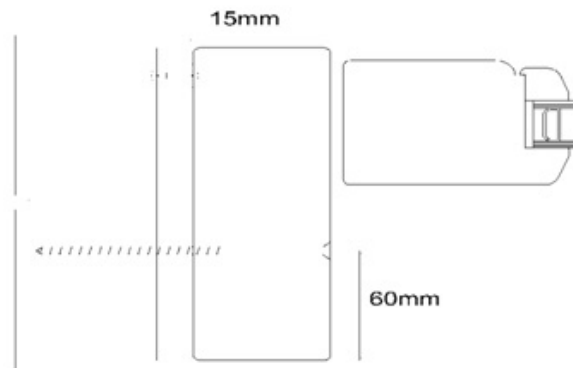

Figure 15. Fastening of a jamb of a parallel sliding door (vertical)
18. Fasten the jamb permanently to the wall structure with 6\*120 screws (see Figure 15. Fastening of a jamb of a parallel sliding door (vertical)) and cover the screw holes with protection covers of suitable colour shade;